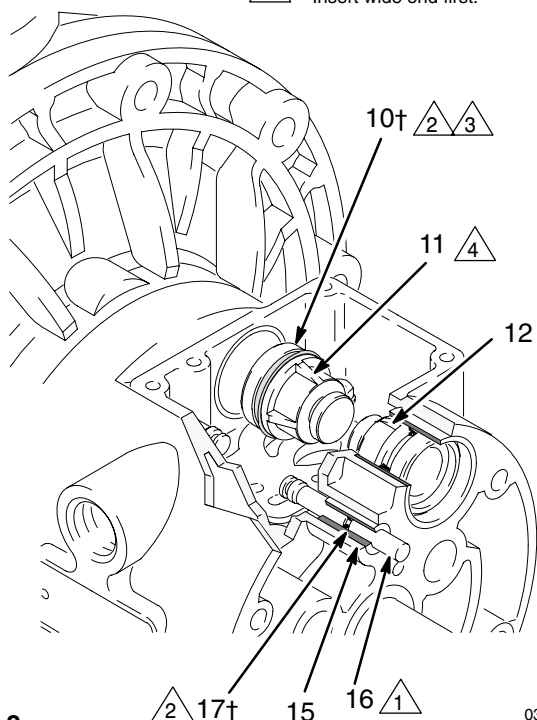

Fig. 8
4. Pull the two actuator pistons (11) out of the bearings (12). Remove the u-cup packings (10) from the pistons. Pull the pilot pins (16) out of the bearings (15). Remove the o-rings (17) from the pilot pins. See Fig. 8.
6. Inspect the bearings (12, 15) in place. See Fig. 8. The bearings are tapered and, if damaged, must be removed from the outside. This requires disassembly of the fluid section. See page 20.
4. Install an o-ring (17†) on each pilot pin (16). Grease the pins and o-rings. Insert the pins into the bearings (15), **narrow** end first. See Fig. 8.
5. Install a u-cup packing (10†) on each actuator piston (11), so the lips of the packings face the **narrow** end of the pistons. See Fig. 8.
6. Lubricate the u-cup packings (10†) and actuator pistons (11). Insert the actuator pistons in the bearings (12), **wide** end first. Leave the narrow end of the pistons exposed. See Fig. 8.